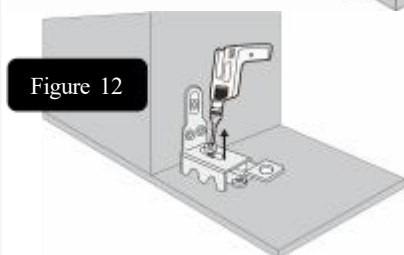

Figure 12
- **Step 4:** Loosen the screw as shown (Figure 12).